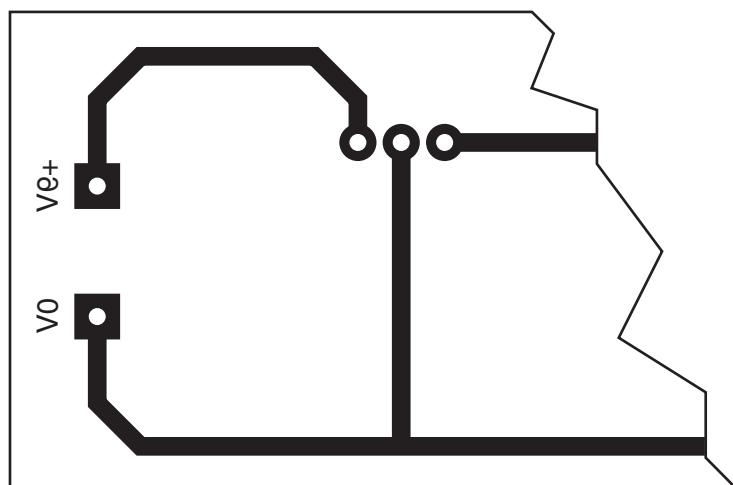

Fig. 13
- (ii) Fig. 13 shows part of the PCB layout for the smoothed supply.